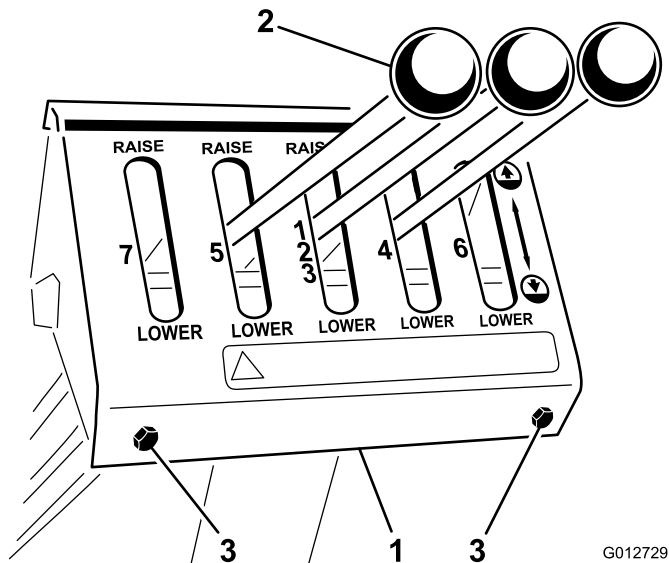

Figure 15
3. Remove the 4 bolts securing the control panel cover to the control tower and remove the cover (Figure 15).
7. Reinstall the control panel cover to the control tower with 4 bolts (Figure 15).